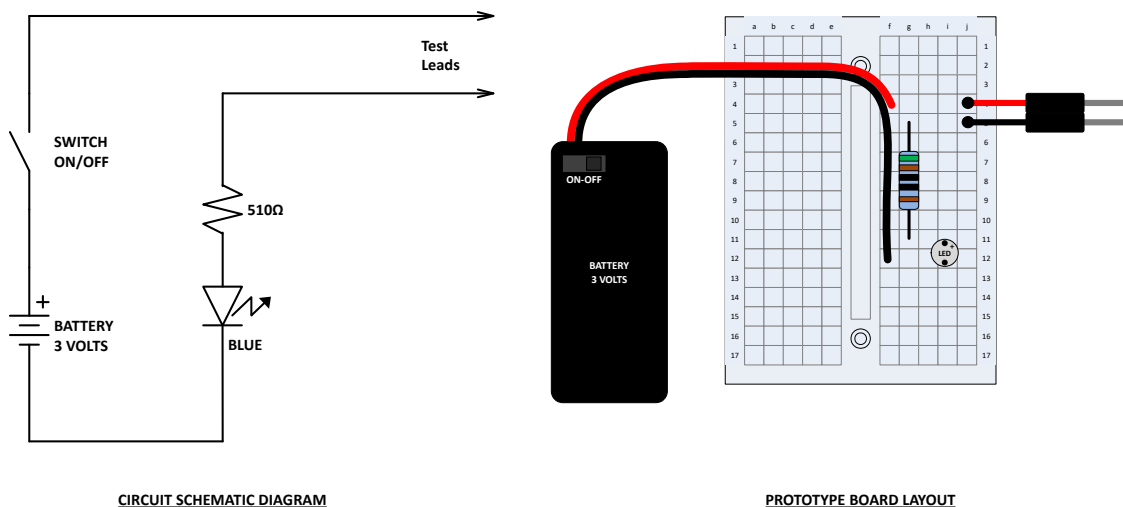

Figure 1: Simple Electrical Continuity Tester
2. Pre-build one (1) simple electrical continuity tester. The wiring of the tester is shown in Figure 1; or
- a. With reference to the circuit diagram and physical layout in Figure 1, identify each of the electronic components: The battery, switch, wires, resistor, LED and test leads.